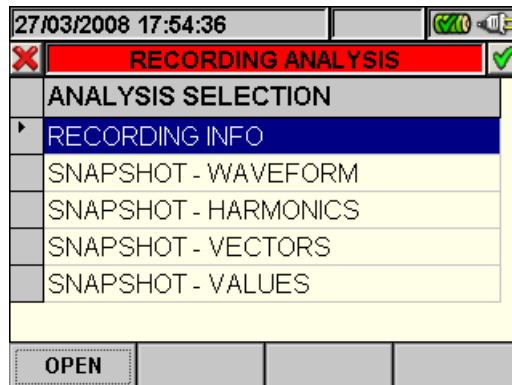

Fig. 124: Recording analysis (Istant-type data)
2. Press the **ESC** key (or the smart icon on the display) to exit the function and go back to the "Recording analysis" page (Fig. 124).
- The **ESC** key (or the smart icon  on the display) to exit the function and go back to the "Recording analysis" page (Fig. 124).
- The **ESC** key (or the smart icon on the display) to exit the function and go back to the “Recording analysis” page (Fig. 124).